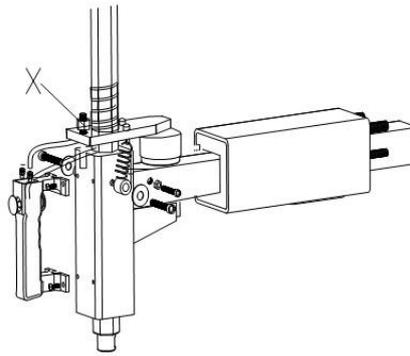

Fig 20
Note: If Vertical Arm not be locked or not meet the requirement that 2-3mm from the bottom of Mounting head/demounting head to rim, please adjust Hexagonal Locking Plate, refer to Fig 20 and adjust the (X).